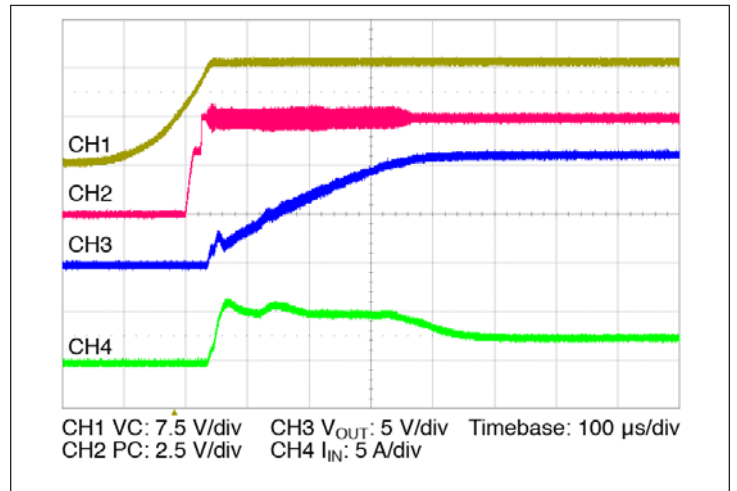

Figure 14 – Start up from application of VC;  $V_{IN}$  pre-applied  $C_{OUT} = 500 \mu$ F
- Stand Alone Operation (VC applied after VIN): In this case the VTM output will begin to rise upon the application of the VC voltage (See Figure 14). The Adaptive Soft Start circuit (See Section 10) may vary the output rate of rise in order to limit the inrush current to its maximum level. When starting into high capacitance, or a short, the output current will be limited for a maximum of 900  $\mu$ sec. After this period, the adaptive soft start circuit will time out and the VTM may shut down. No restart will be attempted until VC is re-applied, or PC is toggled. The maximum output capacitance is limited to 500  $\mu$ F in this mode of operation to ensure a successful start.